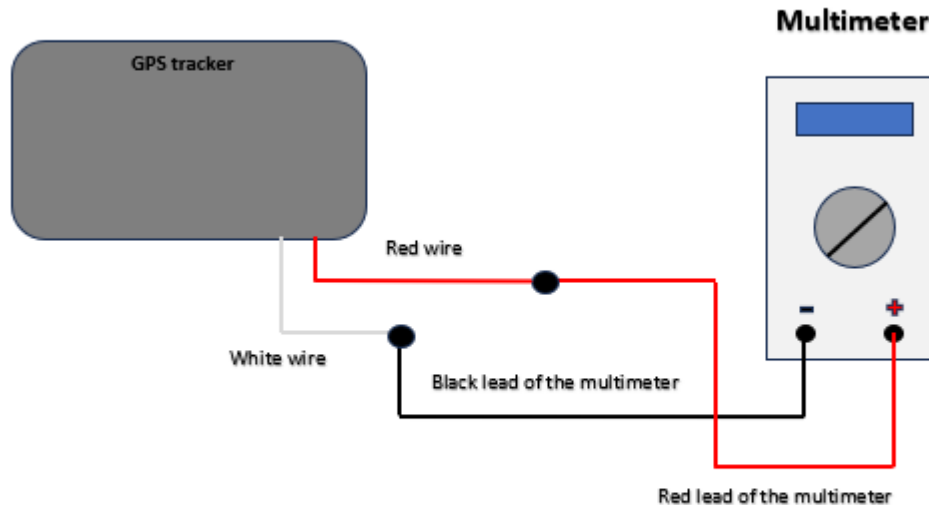

Fig. 3 Connection Diagram
2. Assemble the connection circuit according to "Fig. 3 Connection Diagram."